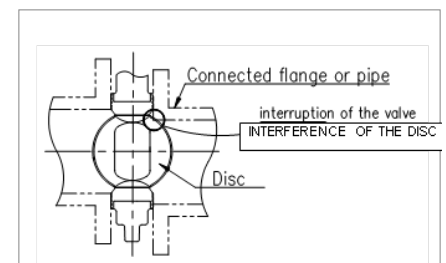

Fig. 2
- 3) Care must be used during piping installation to ensure that pipe or flanges are properly aligned so that the valve disc does not come in contact with them. Misalignment as shown in Fig. 2 will result in damage to the valve.